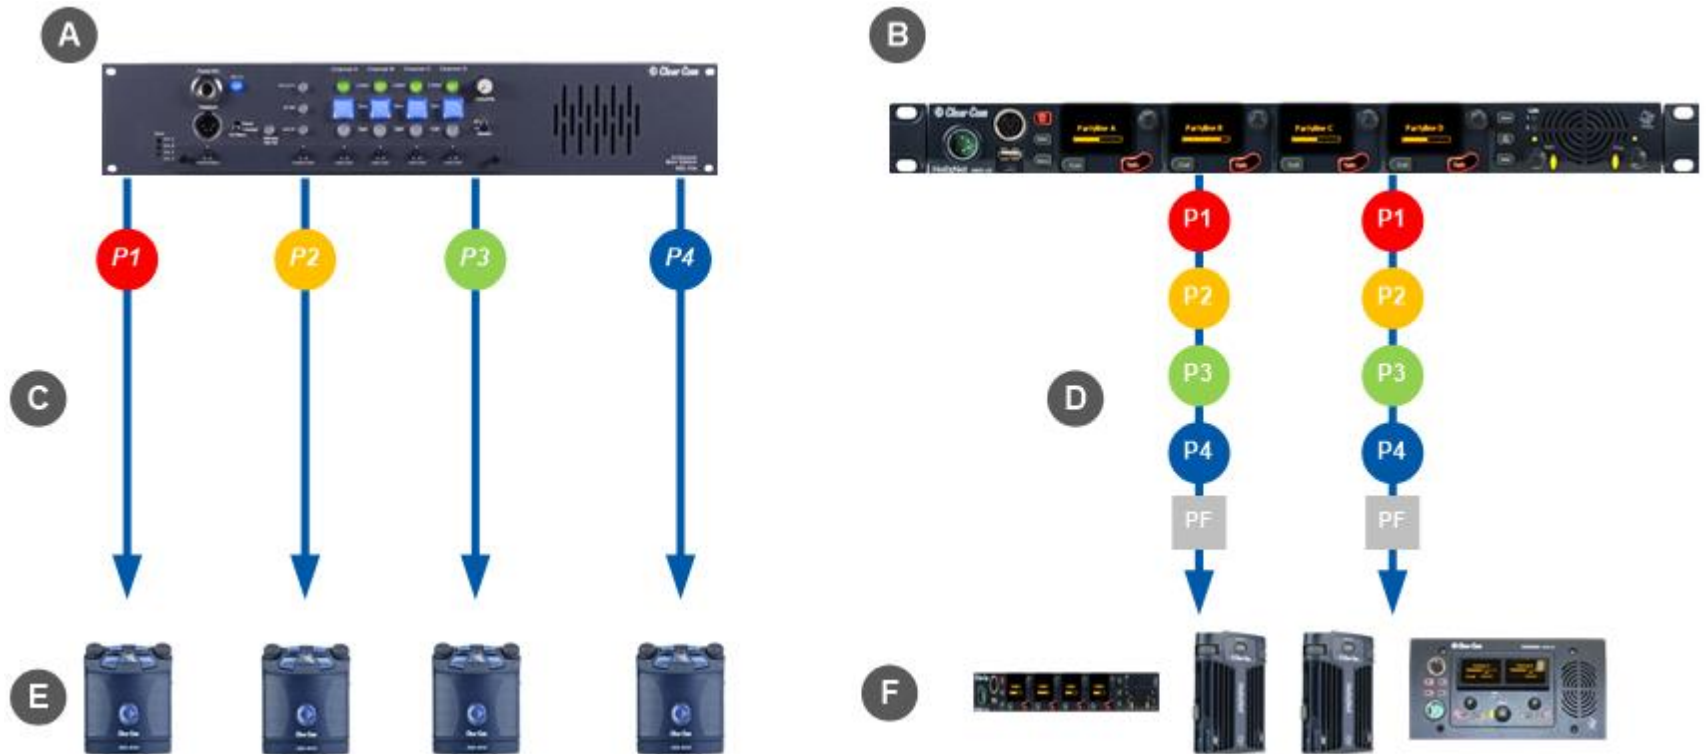

Figure 3-1: Analog and digital cabling comparison
C	<p>The second layout uses an XLR Bulkhead and a Mult-box (passive (Y) splitters) to combine: A daisy chain (with optional redundancy flyback). Point-to-point connected beltpacks (using the Mult-box). The complexity and variety of layouts does not restrict physical access to channels. Because HelixNet Partyline is a digital system, the HelixNet Stations can access any of the available channels (plus a Program Feed), however they are connected to the Main Station (see Figure 3-1: Analog and digital cabling comparison).</p>